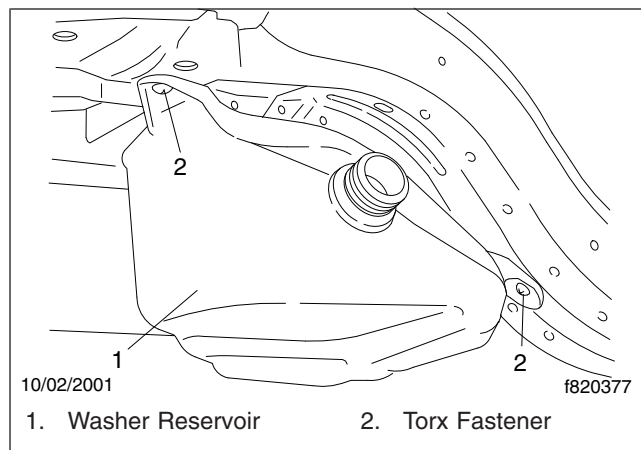

Fig. 2, Washer Reservoir
9. Remove the nut and Torx fasteners that attach the washer reservoir to the cab. See **Fig. 2**